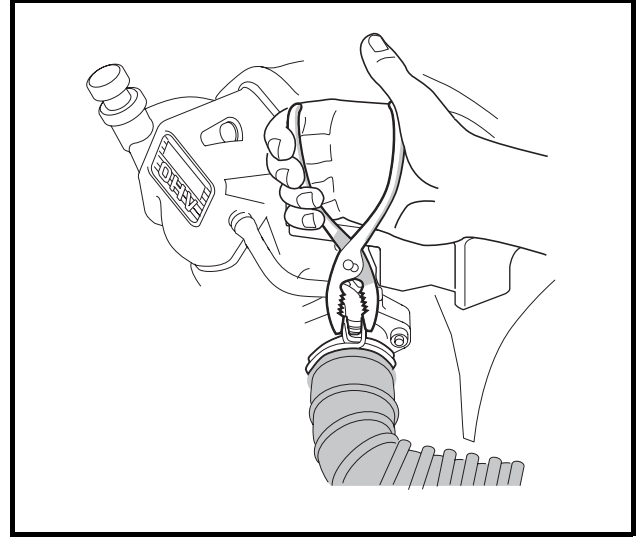

Figure 19-50 Air Intake Hose
27. Connect air intake hose to carburetor and secure hose clamp (**Figure 19-50, Page 19-18**).